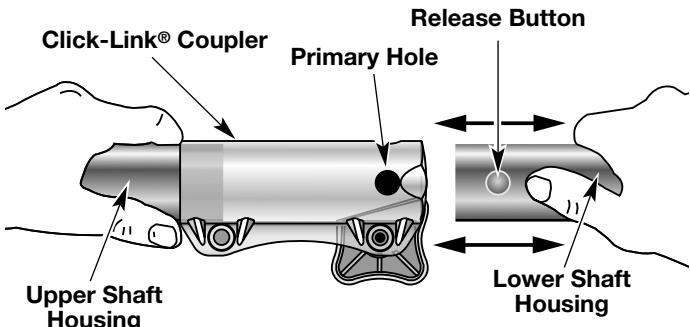

Fig. 8
2. While firmly holding the add-on, push it straight into the Click-Link® coupler (Fig. 8).
NOTE: Aligning the release button with the guide recess will help installation (Fig. 8).